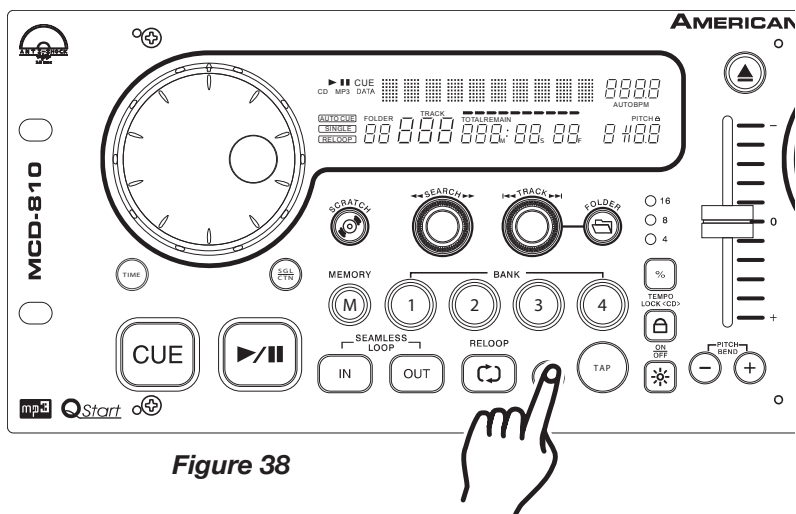

Figure 38
- 3) Now tap the *BOP BUTTON* (18) (Figure 38). It will produce a stutter effect as quickly as you tap on the *BOP BUTTON* (18).